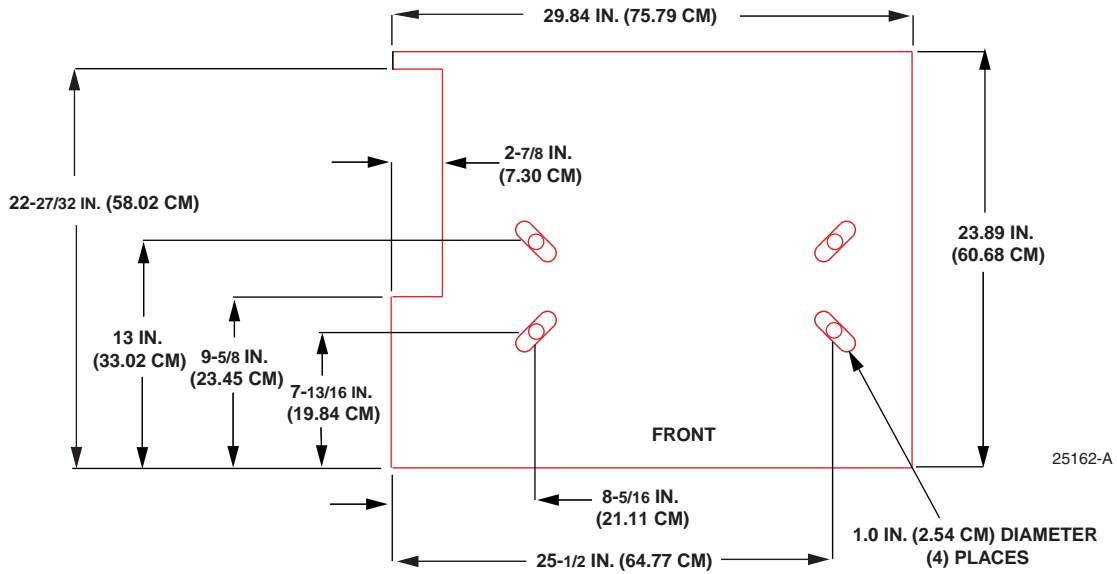
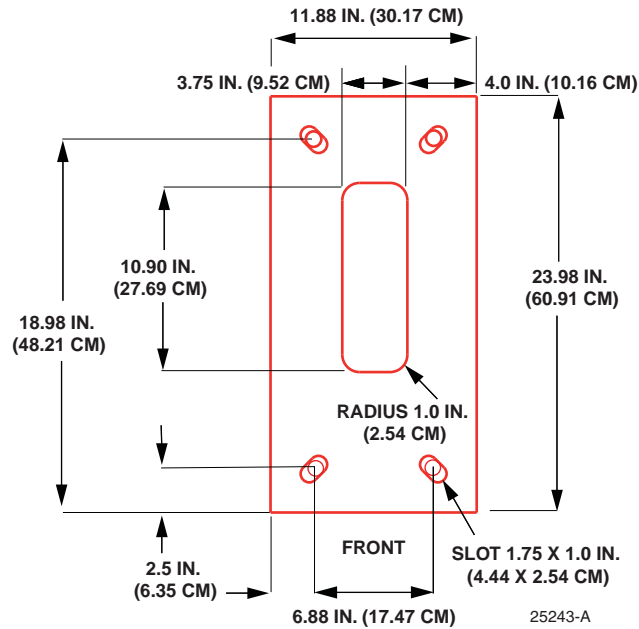

Figure 1. Frame Footprint (Optional Template Shown)
Figure 2. FOTSP Footprint
Figure 1 shows the frame footprint. Figure 2 shows the FOTSP footprint. The optional FOTSP is installed adjacent to the frame on the left front side.
2. If cables will enter the FOTSP from under the floor, saw out a cable entry hole, referring to Figure 2 on Page 4 for hole location and dimensions.